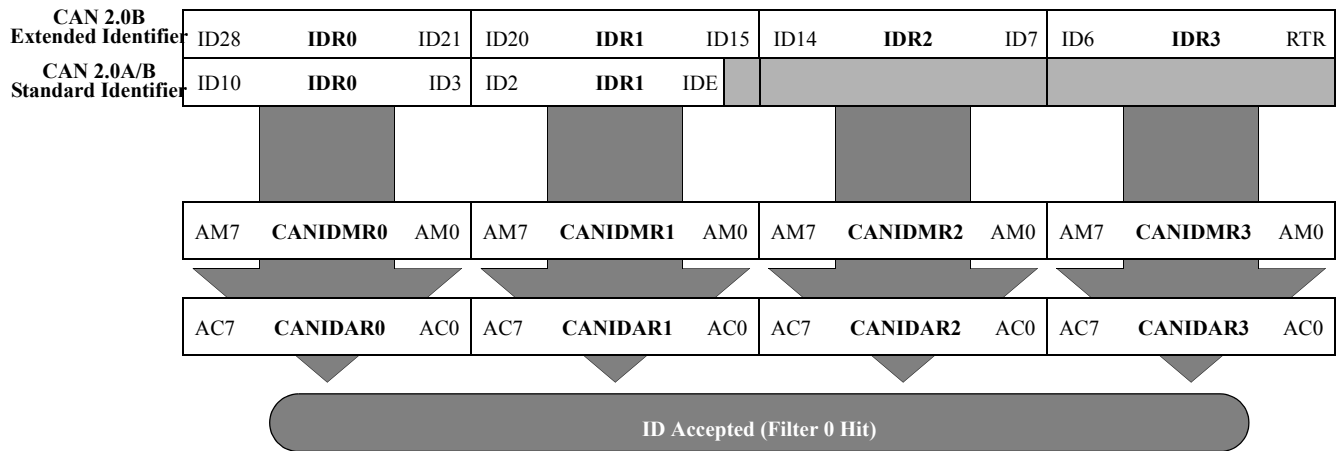

Figure 91. 32-bit maskable identifier acceptance filter
- The 11 bits of the standard identifier plus the RTR and IDE bits of the CAN 2.0A/B messages. This mode implements two filters for a full length CAN 2.0B compliant extended identifier. Although this mode can be used for standard identifiers, it is recommended to use the four or eight identifier acceptance filters. Figure 91 shows how the first 32-bit filter bank (CANIDAR0–CANIDAR3, CANIDMR0–CANIDMR3) produces a filter 0 hit. Similarly, the second filter bank (CANIDAR4–CANIDAR7, CANIDMR4–CANIDMR7) produces a filter 1 hit.